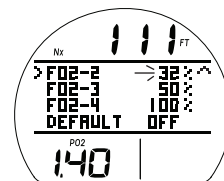

Fig. 23B - SET FO2-2
**During the time that numeric FO2 values are flashing, the Max Depth allowed for the PO2 alarm set with the FT (or M) icon is displayed in place of the graphic SEt F and the PO2 alarm value set with the PO2 icon is displayed in place of the graphic MENU (Fig. 23B).*
- S (< 2 sec) when the pointer icon (>) is next a selection will flash that item's Set Point (Fig. 23B).